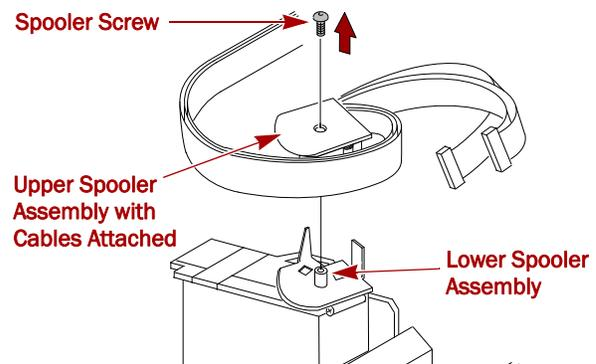

Figure 6. Removing the Upper Spooler Assembly
2. Remove and discard the spooler screw (Figure 6).
3. Lift off the **upper** spooler assembly with the flex cables attached (Figure 6), and carefully set it aside.